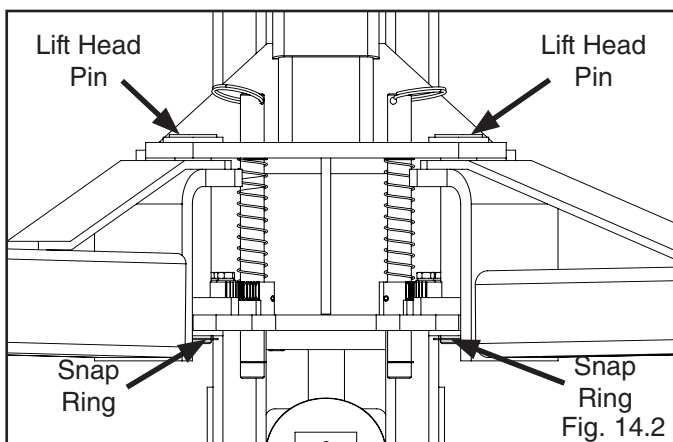

Fig. 14.2
3. Install the snap ring into the groove in the lift head pin on under side of the lift head. (See Fig. 14.2)